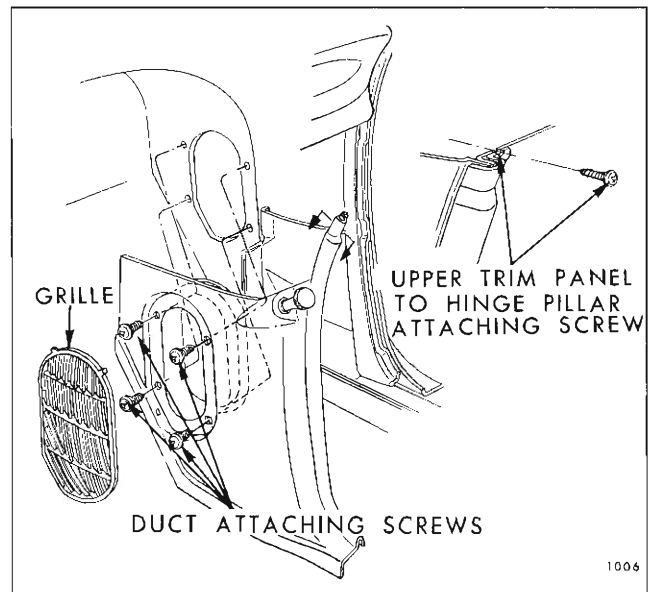

Fig. 5C13—Shroud Side Trim Panel and Duct Assembly
3. Remove retainer securing control assembly to trim panel (Fig. 5C12), and remove control assembly.